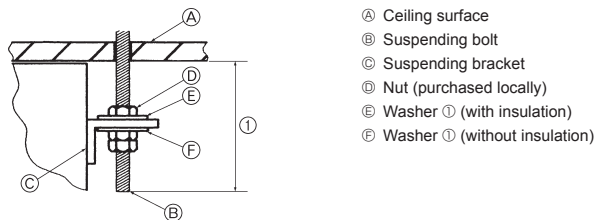

Fig. 3-5
4) Indoor unit preparation (Fig. 3-5)